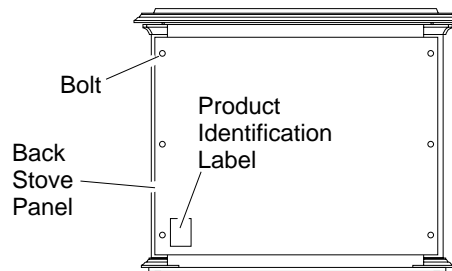

Figure 6 - Removing Back Panel
4. Remove back panel from stove (see Figure 6). Use an adjustable wrench or a 10 mm socket. Remove six (6) bolts and washers. Keep bolts and washers to reattach back panel later.